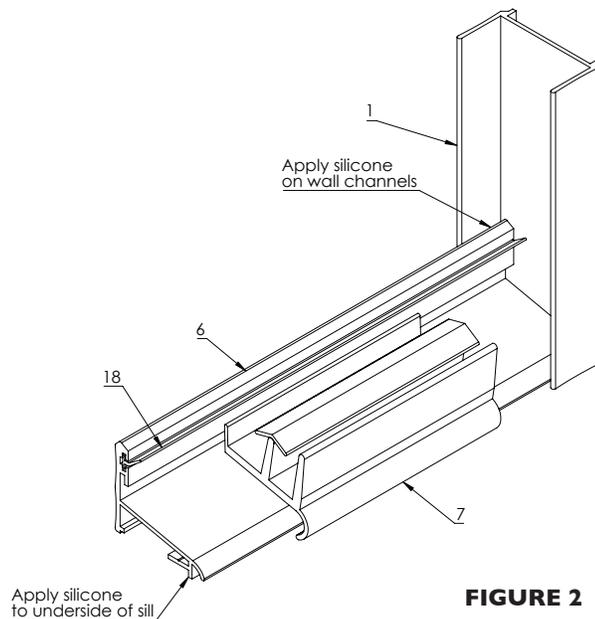

FIGURE 2
1. Set wall jambs (1) in place on walls, centering bottom of jambs on rim of tub. Hold plumb and mark walls for screw holes.
2. Remove and drill 3/16" diameter holes in walls (use a carbide tipped drill bit for tiles walls). Insert plastic wall anchors (2) into holes. Silicone where the wall meets the rim of the tub to seal the bottom of jamb. Set jambs in place and secure to the wall with #8 x 1/14" screws (3). Secure bottom bumper (4a) on shower head/inside side with the bottom wall jamb screw.
3. Cut sill (6) to fit opening between jambs. Run a bead of silicone full length to the underside of sill (See Figure 2) and apply silicone to inside of jamb where jamb meets tub. On the inside of jamb, run an 1/4" bead of silicone 1-1/4" up the outside leg of each wall jamb (See Figure 2). Set curb in place, then press firmly to rim of tub. Wipe off any excess silicone before curing. Use tape to hold in place until silicone has set.
4. Cut header (8) 1/32" to 1/16" less than opening width and set in place.
5. To set slider glass in place, hold inside slider inside of tub shower pan, insert rollers up into header and lower into place. The inside slider glass has only one hole for the inside pull handle (10) and will close against the wall jamb on the shower head side. Next, insert lower end of outside slider in front of inside slider by pushing lower ends far enough in to allow clearance on inside edge of tub or pan. Avoid roller brackets to roller bracket contact while lifting panel into place. The outside slider will close against the jamb opposite the shower head.
6. Place center guide (7) to center position on sill (See Figure 2). Make sure the center guide is hooked into the slot position on the sill, then snap center guide to sill.
8. To install towel bar (9), place nylon towel bar insert sleeves (13) into holes in the glass (17). Next, hold the tubular towel bar (9) against the hole in the glass with the nylon towel bar/pull washer (12) between the glass and the towel bar.